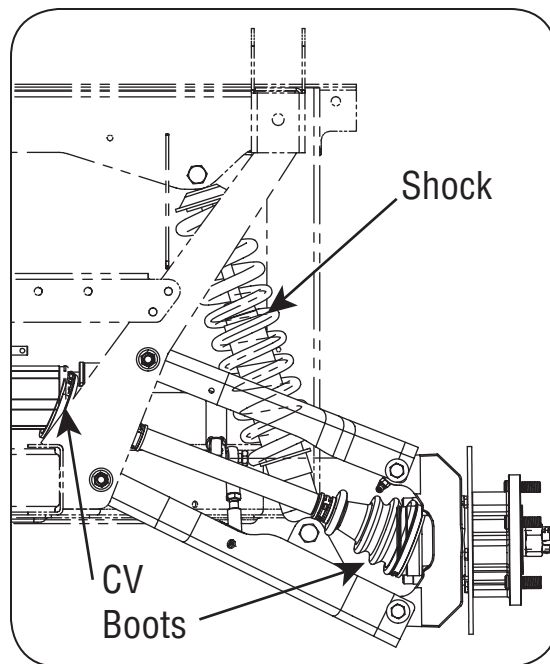

Figure 13
1. Inspect the front and rear shocks every 100 hours or once a year for oil leakage. See Figure 13. If excessive oil leakage appears, have shocks repaired or replaced by your local Cub Cadet dealer.
1. Inspect CV boots (two on each CV joint axle end, eight total) for tears every 50 hours. See Figure 13. If tears or excessive wear appear, have boots replaced by your local Cub Cadet dealer.